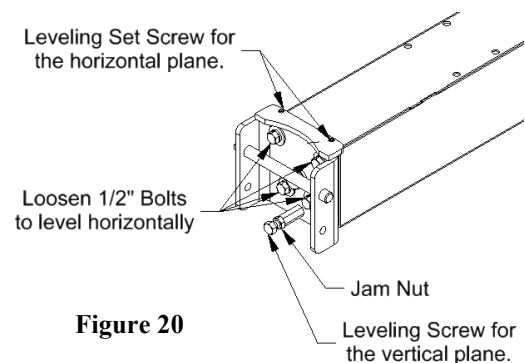

Figure 20
- To level the backboard in the horizontal plane, loosen the four $\frac{1}{2}$ " bolts and the one $\frac{3}{4}$ " bolt in the center of the Quick-Change Bracket attached to the boom. Refer to figure 20. Level the board horizontally using the Set Screws on top of the Boom Bracket and tighten all bolts securely.